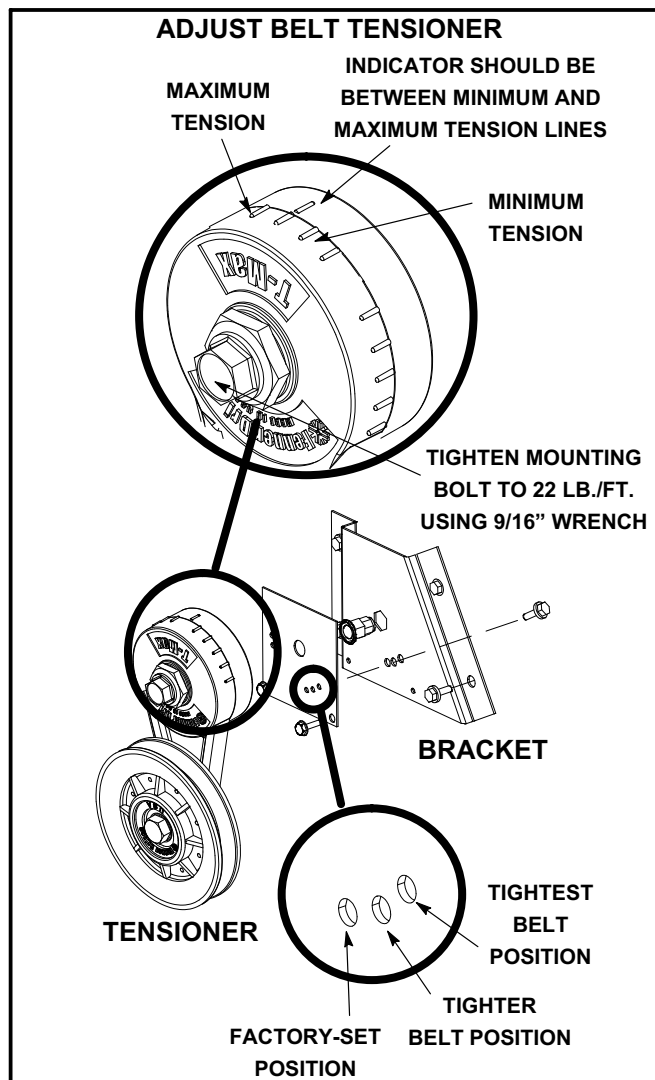

FIGURE 13
- 2- Remove bracket from blower housing. See figure 13.